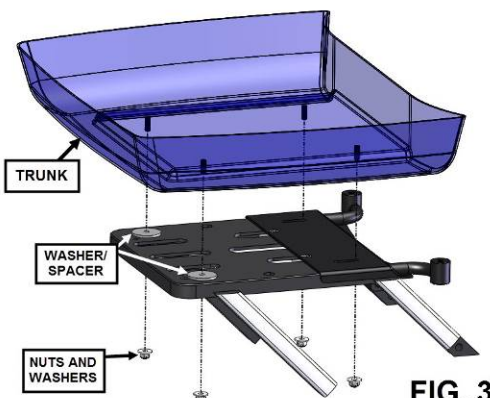

FIG. 3
8. TAKE THE OTHER TWO LARGE FLAT WASHERS AND PLACE THEM ON THE TRUNK MOUNT AS SHOWN IN FIG. 3.